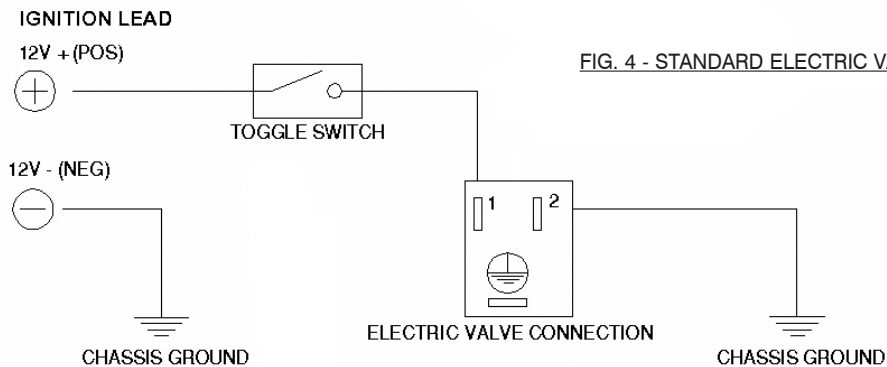

FIG. 4 - STANDARD ELECTRIC VALVE DIAGRAM
- 3A. To install a **Standard Electric Valve** run 16-gauge multi-strand wire from the ignition lead to one side of the toggle switch. From the other side of the toggle switch, run a wire to terminal #1 on the electric valve solenoid. Run another wire from terminal #2 on the solenoid to the chassis ground. The horizontal terminal marked ground is not used. SEE FIGURE 4 Note: To expose the terminals on the electric valve, the black plug will have to be unscrewed from the main valve. The plug assembly then needs to be unassembled by unclipping the plug casing from the body.